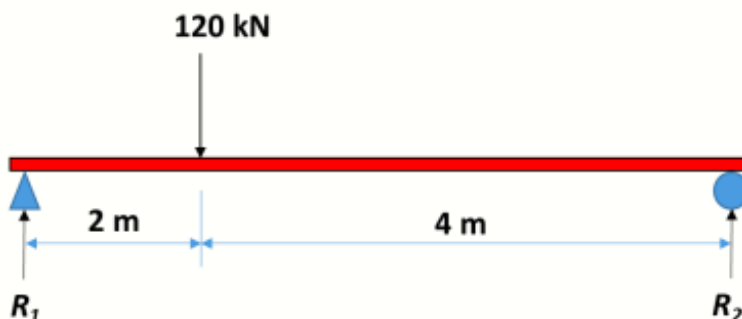

Figure Q4a - Simply supported beam
a) A simply supported beam with a symmetrical I-section is used to support a factory floor. The beam is subjected to a point load of 120 kN at a distance of 2 meters from the left support, as shown in Figure Q4a. The dimensions of the I-section are provided in Figure Q4b. The factory floor is designed to carry heavy machinery, and the beam must be analysed to ensure it can safely support the load. For this beam, answer the following: